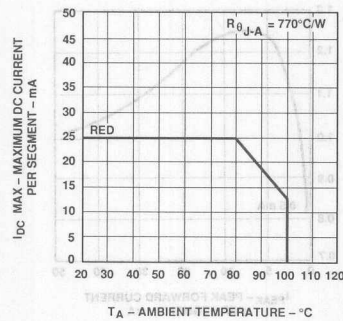

Figure 2. Maximum Allowable DC Current vs. Ambient Temperature.
2. Derate above 80°C at 0.63 mA/°C (see Figure 2).